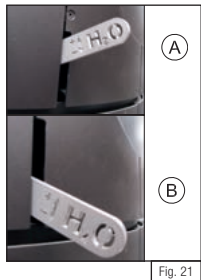

Fig. 21
**Lighting up or combustion phase** (Fig. 21 B) The lever is right at the bottom. The flue gas is not routed through the heat exchanger. That allows the chimney draught to develop as quickly and effectively as possible.
Combustion position (Fig. 21 A) The lever is right at the top. All the flue gas will now be routed via the water heat exchanger. Wait for the stove to heat up fully, the fuel to catch light and embers to form before moving the lever to this position. That normally takes about 15-20 minutes.